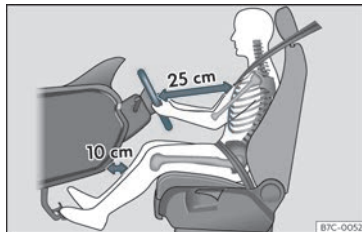

Fig. 6 The correct distance between the driver and the steering wheel must be at least 25 cm (10 inches).
- Move the steering wheel so it is at least 25 cm (10 inches) away from the sternum »» Fig. 6 and you can hold it with both hands on both sides, on the outer part, with your arms slightly bent.
bent and with a distance between the knees and the dashboard of at least 10 cm (4 inches)»» Fig. 6.